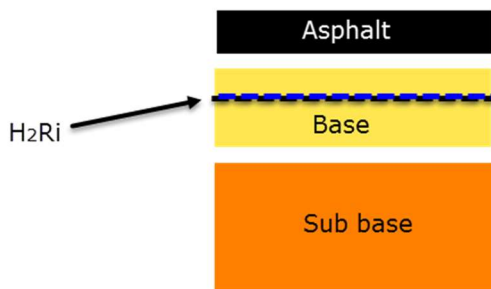

Figure 3 - Close to the pavement structure as possible
3. Surficial Flow: Placement should be as high in the structural section as possible as shown in Figure 3. The Mirafi® H₂Ri wicking geosynthetic should have a minimum of 6” (150 mm) compacted aggregate coverage. It is not possible to pave directly on H₂Ri as an AC tack coat will clog the wicking yarns. For one project, a nonwoven geotextile was placed over the Mirafi® H₂Ri and a concrete surface was constructed directly on the nonwoven geotextile. Further research into this procedure is needed.